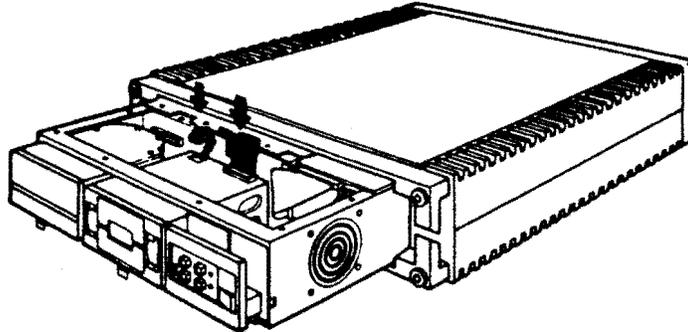

Figure 6-21: RX50 Cable Connection
1. Slide the drive into the chassis to reconnect the dc power and signal cables (Figure 6-21).